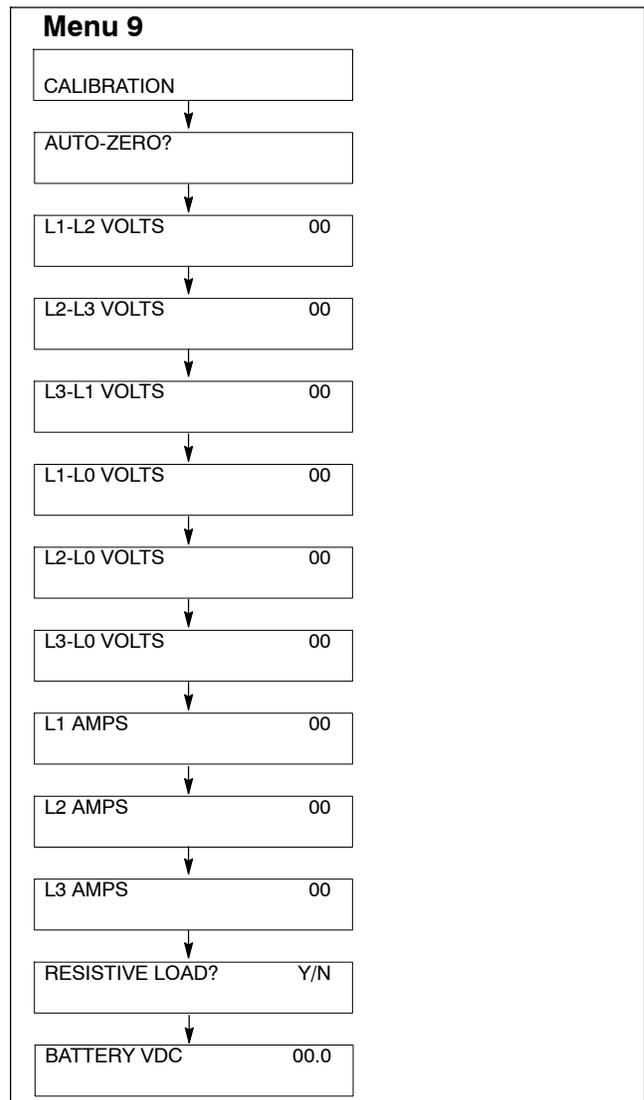

Figure 10 Menu 9, Calibration
- 12.2 Press the Reset Menu key, enter 9, and press the Enter key to go to Menu 9, Calibration. See Figure 10.
- 12.9 Record the voltage on the resistive load bank or connect an RMS voltmeter to each of the remaining voltage connections shown in Figure 10. Use the numeric keys to enter the user measured value of each of the corresponding voltage displays. Press the Enter key. Press the Down Arrow key to access the next display.
- 12.10 Record the amps from the resistive load bank or connect an RMS ammeter to each of the amperage connections shown in Figure 10. Use the numeric keys to enter the user measured value of each of the corresponding amp. displays. Press the Enter key. Press the Down Arrow key to access the next display.